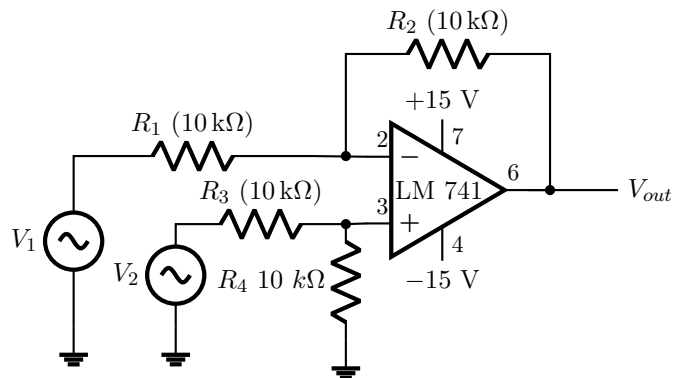

Figure 7.2: Difference Amplifier (Subtractor) Circuit Diagram
1. Reconfigure the circuit according to Figure 7.2.
3. How would you modify the summing amplifier circuit to perform *subtraction* of two signals using only inverting-adder and inverting-amplifier (unity gain) stages, without using the single-op-amp difference amplifier of Figure 7.2?